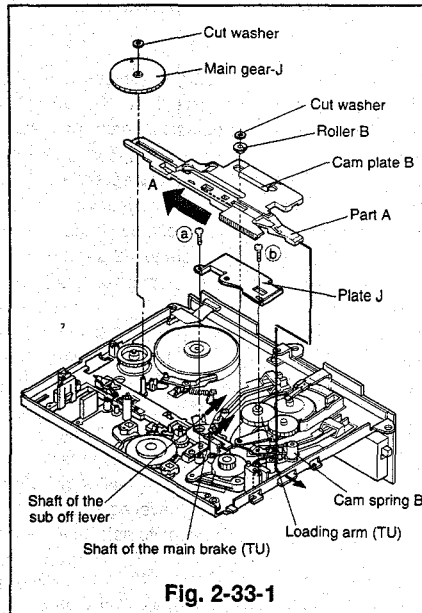
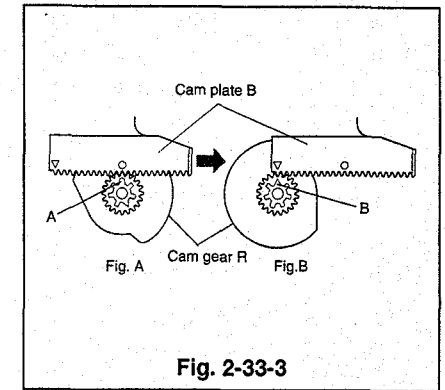

Fig. 2-33-1
Fig. 2-33-3
- ① Remove the two screws (a) and (b) to remove the plate J. (Fig. 2-33-1)
- ② Take off the cut washer fixed to the shaft of the loading arm (TU) to remove the roller B.
- ③ Remove the reel belt.
- ④ Remove the belt pulley. (Refer to Para. 2-28 for the removal method.)
- ⑤ Remove the loading motor assembly (which holds the motor holder). (Refer to Para. 2-29 for the removal method.)
- ⑥ Remove the main gear J. (Refer to Para. 2-30 for the removal method.)
- ⑦ Slide the cam plate B to the left (the direction shown by the arrow) to remove it.
- ③ Passing part A of the cam plate B under cam spring B insert it into the hole on the side of the main plate, as shown by the continuous line. (Refer to Fig. 2-33-1)
- ④ While keeping the rear section of cam plate B raised, align the cam plate B and the cam gear R so that the O mark on the cam plate B aligns with the part A on the cam gear R as shown in Fig. 2-33-3 (Fig. A). Still keeping the rear of cam plate B raised, slide it to the right until the Δ mark on cam plate B and aligns with the part B on the cam gear R, refer Fig. 2-33-3 (Fig. B). From this position lower the rear of the cam plate B unto the already aligned loading gears TU and SP, refer 2 above. Shift the sub off lever and the main brake TU in the directions shown by the arrows to install them. (Refer to Fig. 2-33-1)
- ⑤ Fix the roller B to the shaft of the loading arm (TU) and secure it with the new cut washer.
- ⑥ Install the plate J and secure it with the two screws (a) and (b).
- ⑦ Install the main gear J. (Refer to Para. 2-30 for the installation method.)
- ⑧ Install the loading motor assembly (which holds the motor holder). (Refer to Para. 2-29 for the installation method.)
- ⑨ Install the belt pulley. (Refer to Para. 2-28 for the installation method.)
- ⑩ Fasten the reel belt. (Refer to Para. 2-28 for the installation method.)